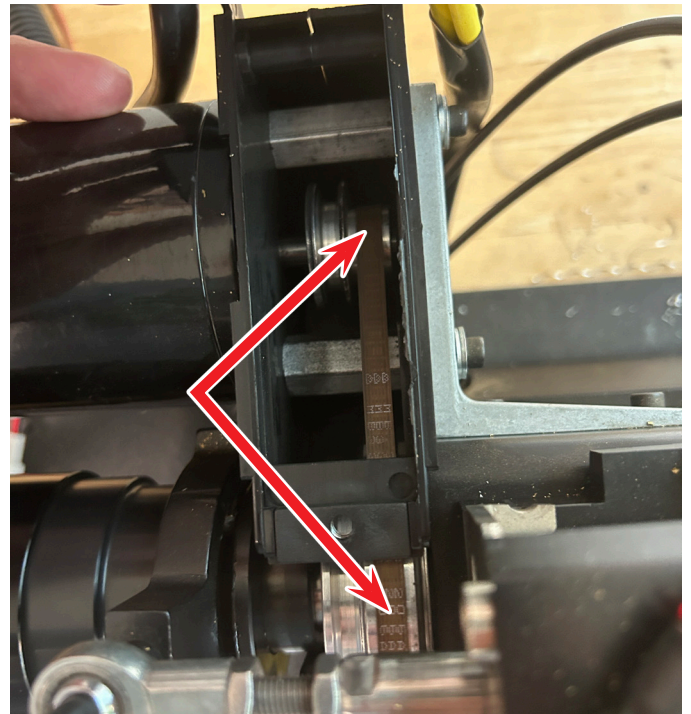

FIGURE 7
G. Turn the headstock pulley and walk the drive belt off of both High-Speed pulley grooves on the headstock pulley and the motor pulley. Then, continue to turn the pulley to walk the belt onto the Low-Speed pulley grooves (see Figure 7).